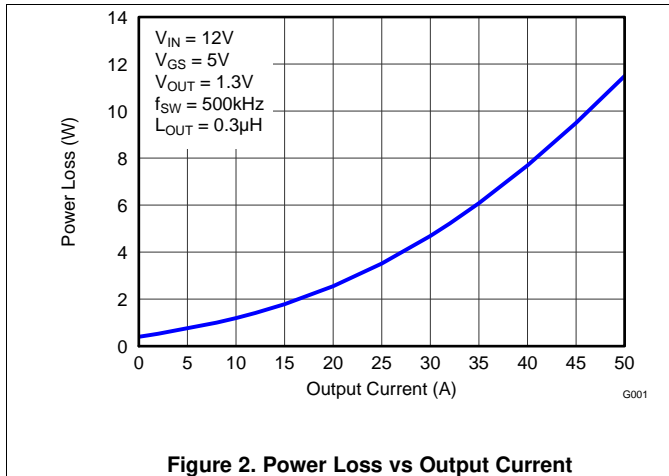
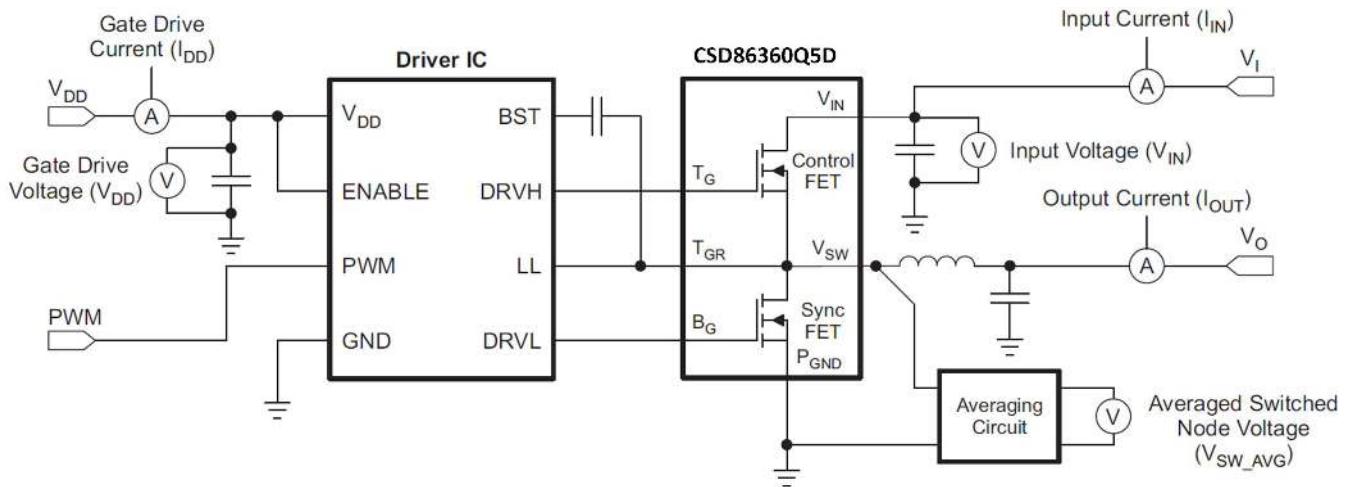

Figure 2. Power Loss vs Output Current
Figure 33. Typical Application
MOSFET centric parameters such as $R_{DS(ON)}$ and Q_{gd} are needed to estimate the loss generated by the devices. In an effort to simplify the design process for engineers, Texas Instruments has provided measured power loss performance curves. **Figure 2** plots the power loss of the CSD86360Q5D as a function of load current. This curve is measured by configuring and running the CSD86360Q5D as it would be in the final application (see **Figure 33**). The measured power loss is the CSD86360Q5D loss and consists of both input conversion loss and gate drive loss. **Equation 1** is used to generate the power loss curve.
The power loss curve in **Figure 2** is measured at the maximum recommended junction temperatures of 125°C under isothermal test conditions.
- Power loss at 25 A = 3.5 W (Figure 2)